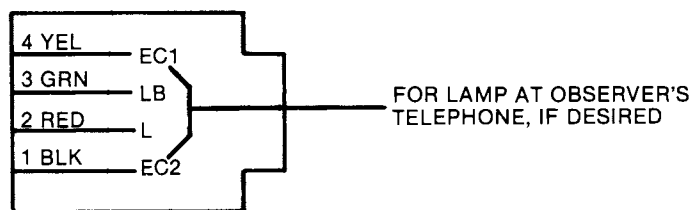

Fig. 13 — Auxiliary Outputs Receptacle Assignments.
- c. If lamp control is desired to indicate seizure of a line or station for observation, connect a modular cord with 4-position, 4-conductor RJ-11 jacks into the AUX OUTPUTS modular receptacle on the KMC-308M. (See Figure 2 for location of the receptacle on the KMC-308M, and Figure 13 for pin designations.) Connect the modular cord into a 4-position, 4-conductor jack (625), then connect the L lead from the modular cord connection at the jack to the station's lamp lead, and the LB lead to the station's lamp supply lead, through the connecting block. If A and A1 control are required, connect the EC1 lead to the station's A lead, and the EC 2 lead to the station's A1 lead, through the connecting block.